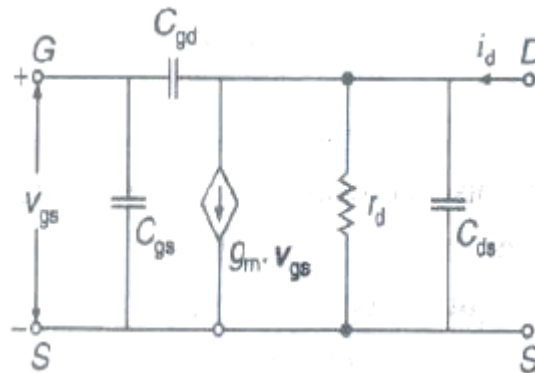

Fig. 5.2 High-frequency FET model
- Figure 5.2 shows the small-signal high-frequency model of a field effect transistor.